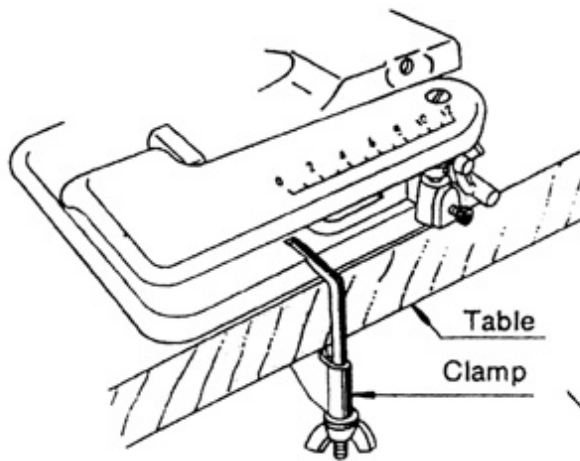

Fig. 1
A. Location (Figs. 1—2)
The selection of the clamp groove depends on how you desire to place machine on table to suit your own convenience. Make sure machine is clamped tightly to keep it from falling off table. See Figs. 1 and 2 for details of clamping.